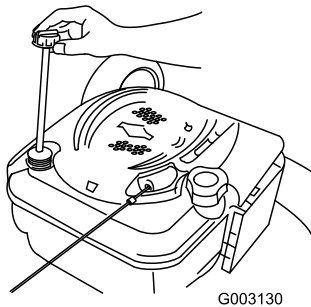

Figure 36
6. Remove the dipstick from the oil-fill tube (Figure 36).